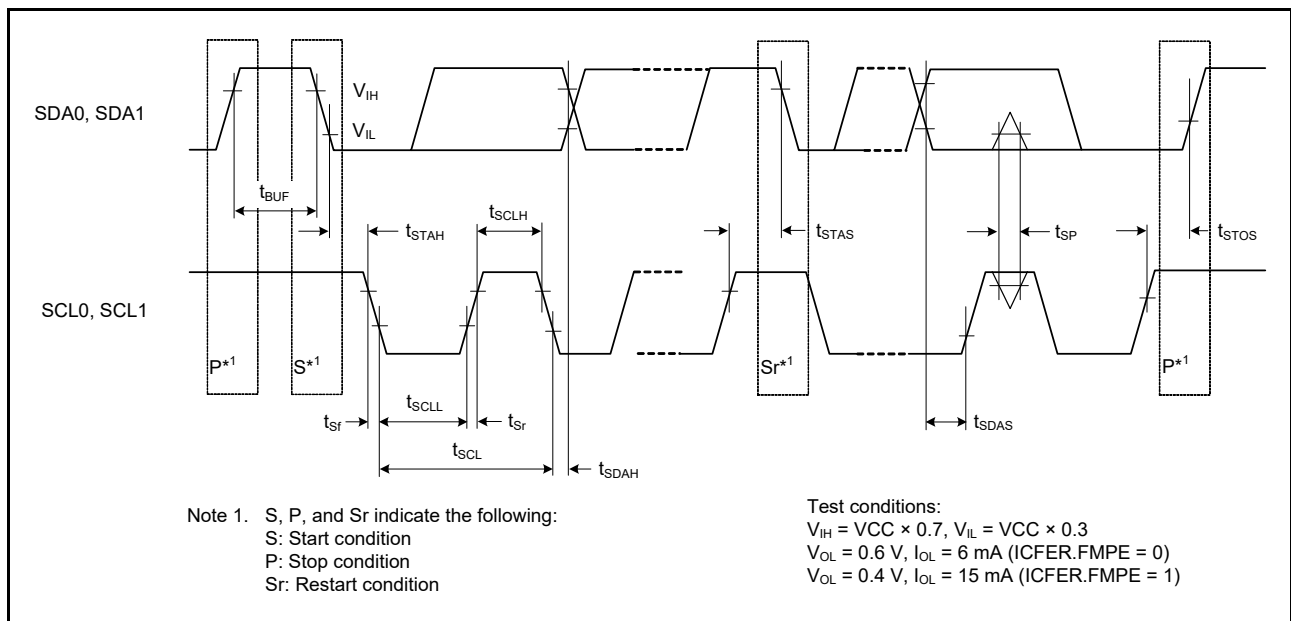

Figure 2.53 I²C bus interface input/output timing
| IIC (Standard mode, SMBus) ICFER.FMPE = 0 | SCL input cycle time | t_{SCL} | $6 (12) \times t_{IICcyc} + 1300$ | - | ns | Figure 2.53 |
| IIC (Fast mode) | SCL input cycle time | t_{SCL} | $6 (12) \times t_{IICcyc} + 600$ | - | ns | Figure 2.53 |
| IIC (Fast mode+) ICFER.FMPE = 1 | SCL input cycle time | t_{SCL} | $6 (12) \times t_{IICcyc} + 240$ | - | ns | Figure 2.53 |